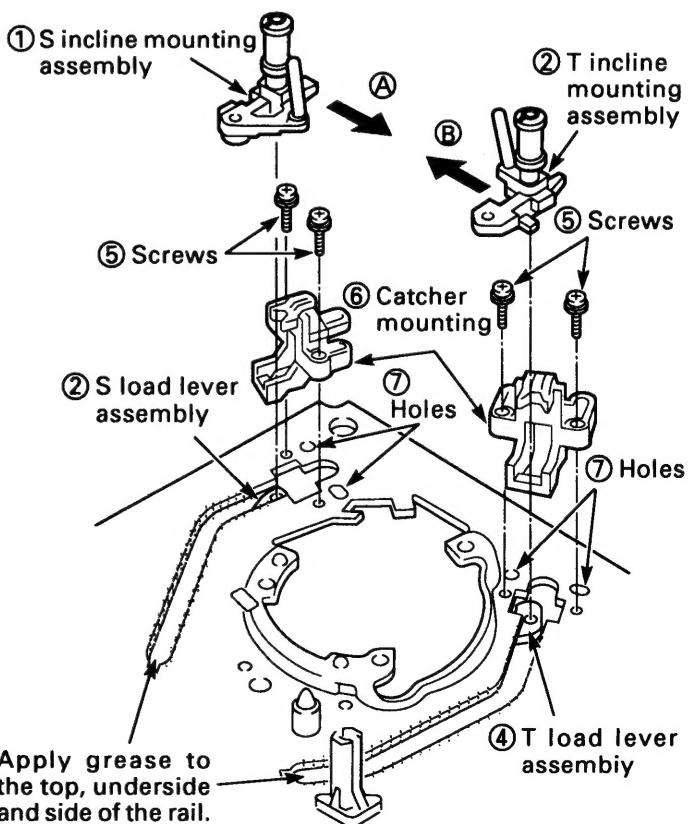

Fig.3-14-2
**3-14-2. S AND T INCLINE MOUNTING ASSEMBLIES (See Fig.3-14-2)**
- 3) Remove the four screws ⑤ and take off the two catcher mountings ⑥.
- 5) Shift the S incline mounting assembly ① slightly, in the direction of the arrow ⑦, then remove it from the S load lever assembly ②.
- 6) Shift the T incline mounting assembly ③ slightly, in the direction of the arrow ⑧, then remove it from the T load lever assembly ④.